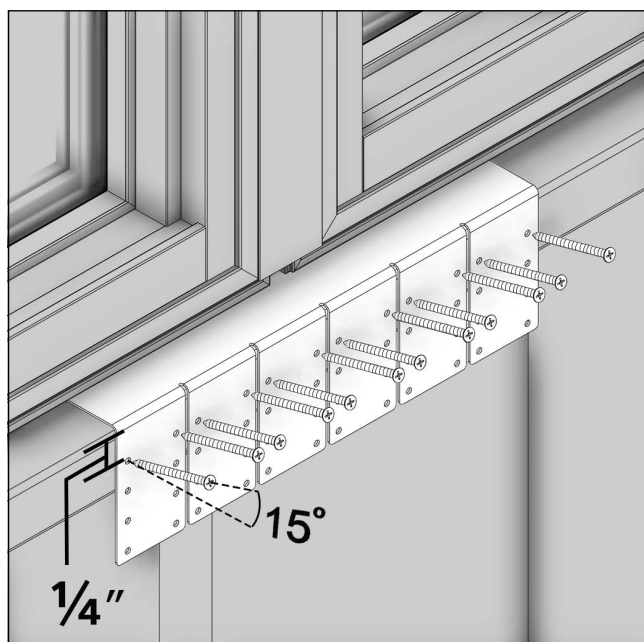

Figure 17
8. Bend gussets against wood framing as shown in Figure 17. Attach the gussets with twelve #8 x 1-5/8" screws. Make sure that the screws are no more than 1/4" from the bend in the bracket (edge of wood buck). Angle the screws approximately 15 degrees toward the thicker part of the framing member. *NOTE: It may be necessary to drill two 5/32" holes in the bracket.*